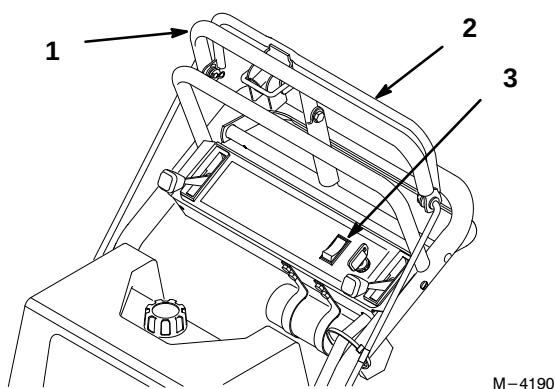

Figure 14
1. Pull on the upper control bar to stop the machine (Fig. 14).
1. Releasing blade control bail to disengage blades (PTO) (Fig. 14).
2. Or push the blade control switch (PTO) to the “OFF” position (Fig. 14).